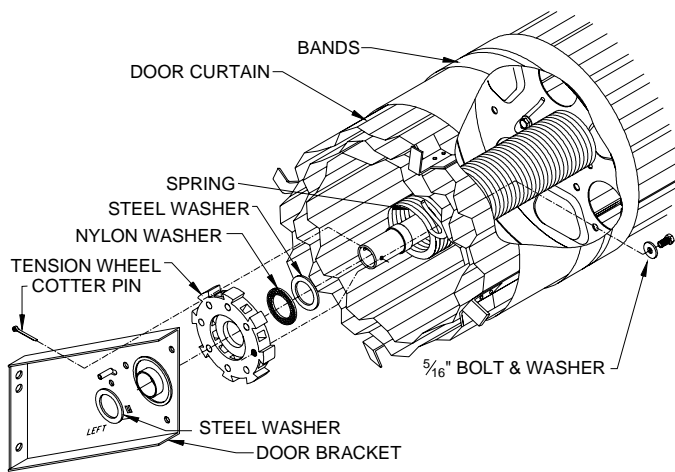

Figure 5.
5.2T Slide the steel washer onto the axle, then black nylon washer. See Figure 5. Apply a small amount of grease to the black nylon washer to assure smooth operation. Stretch spring past axle end and slide door bracket between coils and end of axle. This makes it easy to get the bolt started. Pass a 5/16" bolt with a flat washer through the loop in the end of the door spring and screw into tapped hole in the tension adjustment wheel. Slide the tension adjustment wheel onto axle. ENSURE THAT THE SPRING FITS AROUND THE RING ON THE TENSION WHEEL BEFORE FINAL TIGHTENING. See Figure 6. Slip the axle end through the bearing in the door bracket. Rotate the tension release pawl to allow the tension adjustment wheel to slide pass. Install the second steel washer onto the axle and secure with a cotter pin through the hole punched in the axle end to keep the door bracket in place (omit washer if it blocks cotter pin hole). Repeat on other end if the door has two springs.